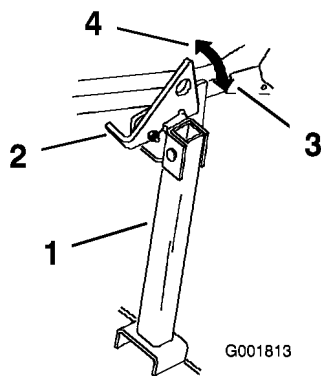

Figure 35
2. Raise the latch to the unlocked position (Figure 35).